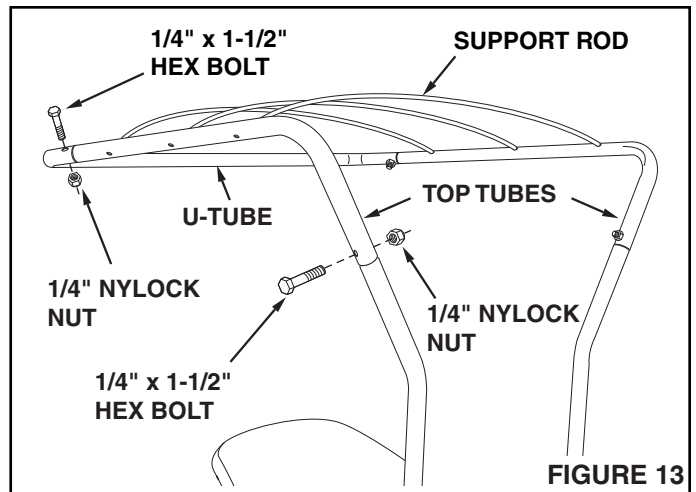

FIGURE 13
STEP 2: (Figure 13)
STEP 3: (Figure 13)
STEP 4: (Figure 13)